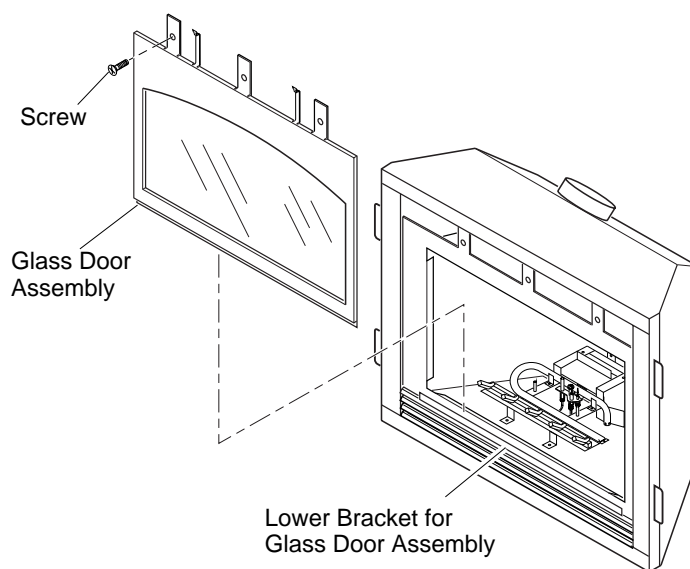

Figure 42 - Removing/Replacing Glass Door
3. Grasp door by both sides and ease it upward off of the lower bracket (see Figure 42).